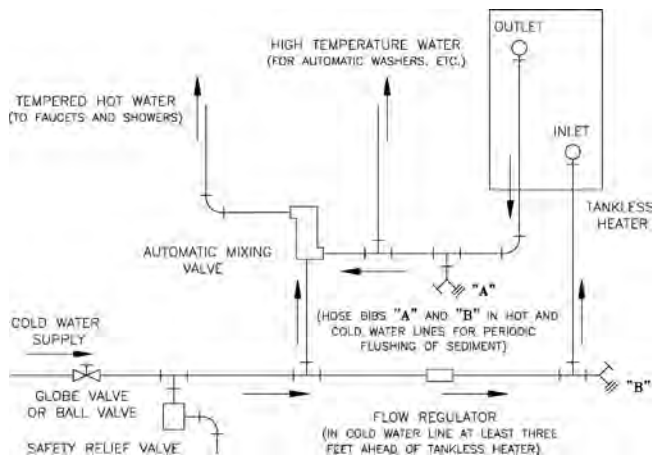

Figure 12: Schematic Tankless Heater Piping
I. CONNECT TANKLESS HEATER PIPING AS SHOWN IN Figure 12. See Table 3 for Tankless Heater Ratings.